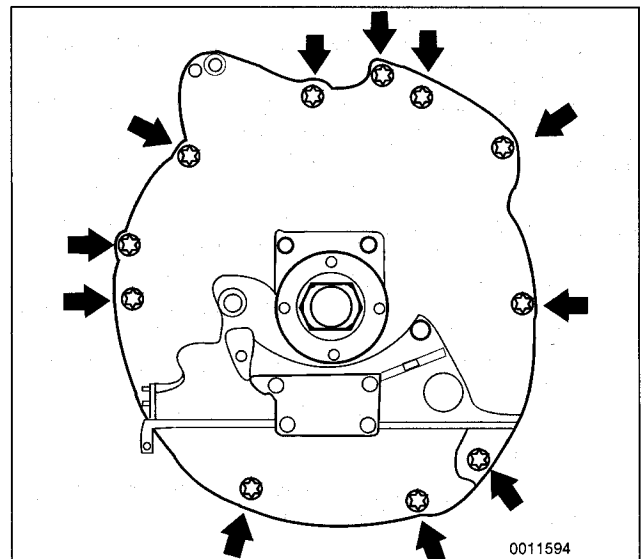

Fig. 10. Transmission-to-engine Torx-head mounting bolts.
13. Remove bellhousing-to-engine mounting bolts. See Fig. 10.